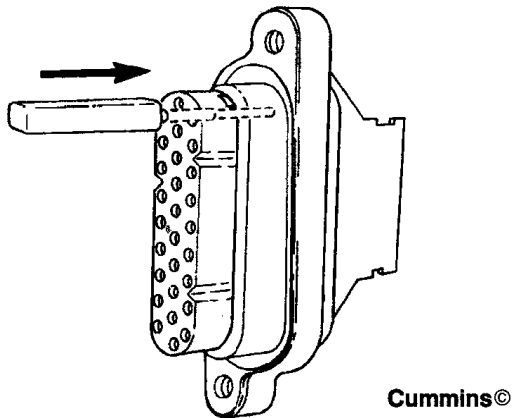

Figure 86 Make Sure Tool is Pushed to Bottom of Cavity
7. Insert tool, Cummins Part No. 3822759, in the number one hole of the connector. Make sure the tool is pushed to the bottom of the cavity (Figure 86).